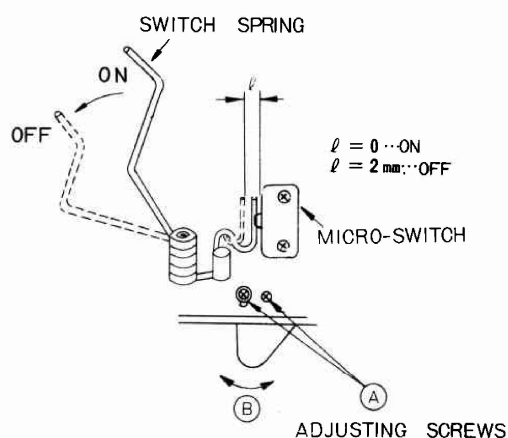

Fig. 44
- b) Adjustment of SHUT-OFF switch (Fig. 44)